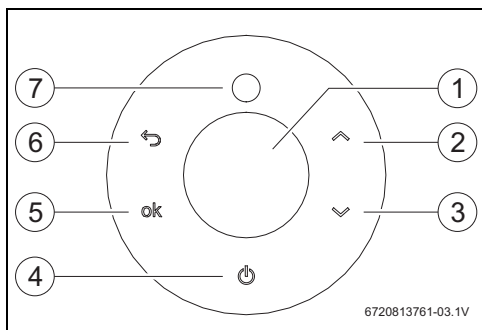

Fig. 39 Touch control display
- Touch and hold symbol  for more than 3 sec. The LCD display shows the selected temperature. When the burner is on, the display shows symbol  (Fig. 39, [7]).